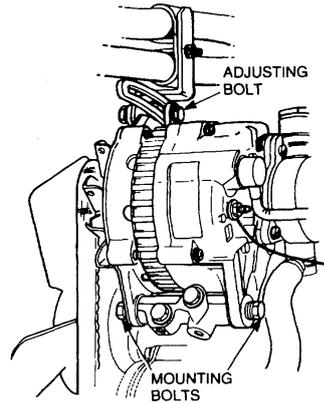

Figure 14 Alternator Adjusting Bolt
- a. Loosen the alternator mounting bolts and remove the adjusting bolt (Figure 14).